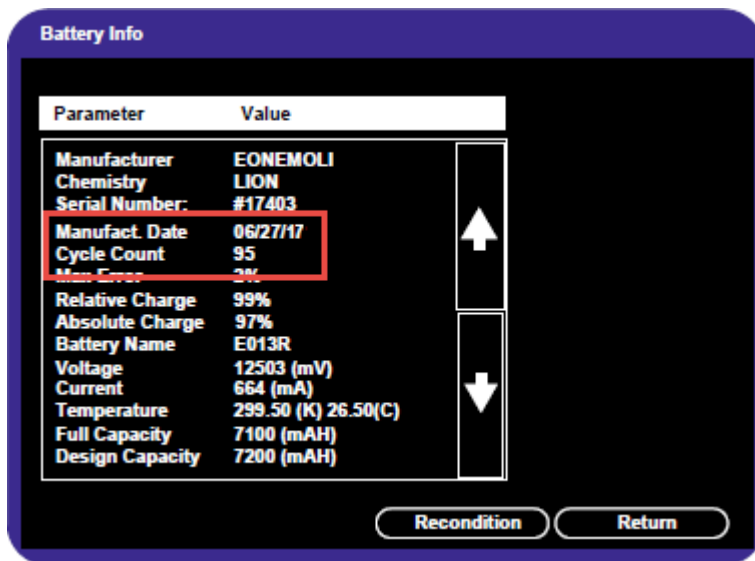

Figure 3 Battery Info Screen
If the battery cycle count exceeds the recommended limit of **300 cycles**, or if the battery is older than **three (3) years**, the battery will need to be replaced (see Figure 3).